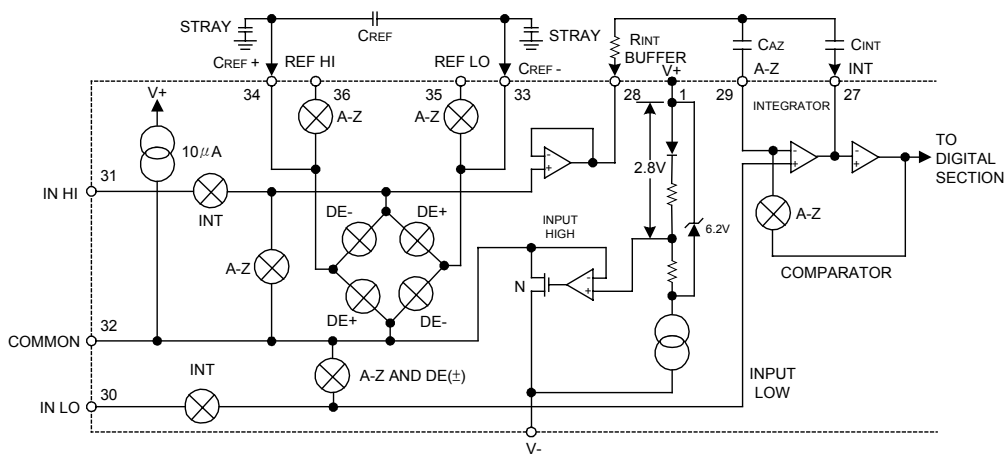

FIGURE 1. ANALOG SECTION
Note 3: Unless otherwise noted, specifications apply to the UTC 7106 at  $T_a=25^{\circ}\text{C}$ ,  $f_{\text{CLOCK}}=48\text{kHz}$ , UTC 7106 is tested in the circuit of Figure 1.
Figure 1 shows the Analog Section for the UTC 7106. Each measurement cycle is divided into three phases. They are (1) auto-zero(A-Z), (2) signal integrate (INT) and (3) de-integrate(DE).
The UTC 7106, with its negligible dissipation, suffers from none of these problems. In either case, an external reference can easily be added, as shown in Figure 1.